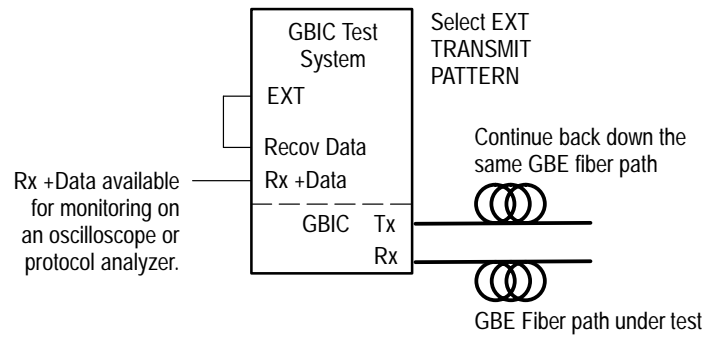

Figure 15: Using the GBIC Test System as a fiber path repeater or monitor
1. Set up the GBIC Test System as shown in Figure 15.